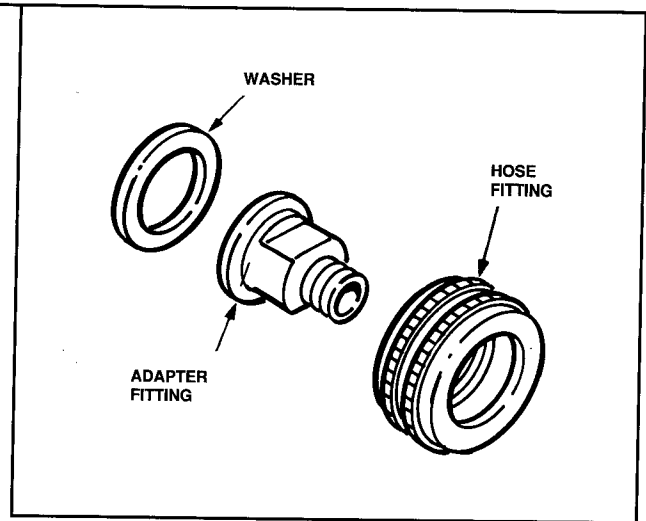

Figure 28
4. Remove brass nut and brass sleeve from adapter fitting. See Figure 28.